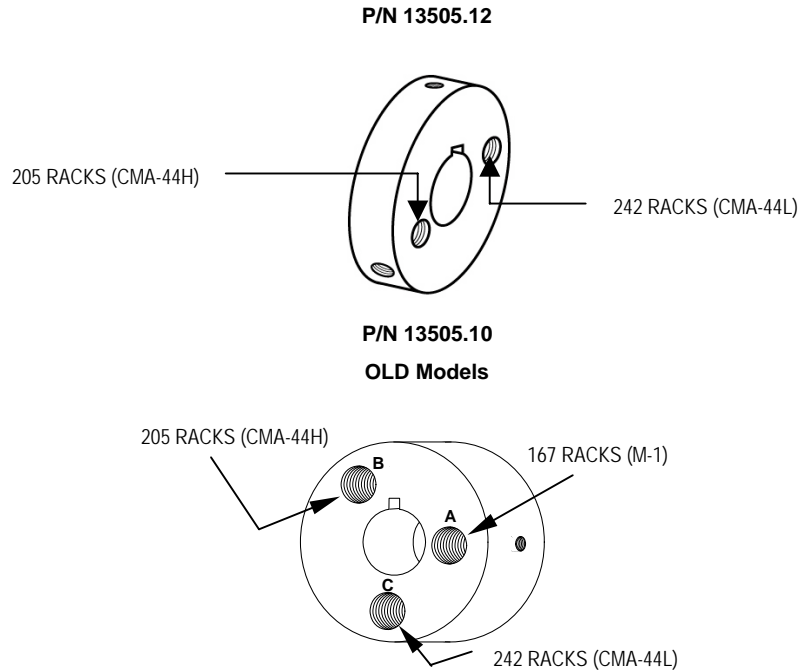

Figure 2.3.3b
3. **Figure 2.3.3b** shows the different settings available on the conveyor cam.